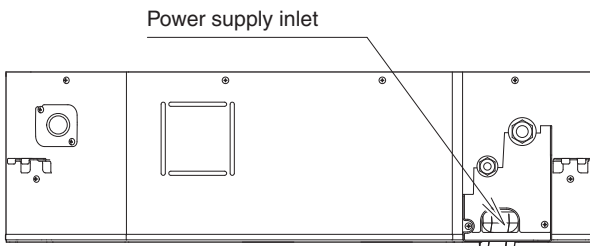

**Fig. 3-96**
- (1) Connect power to the power terminal board (R, S terminals) inside the electrical component box.
- (2) Slowly pour about 1,200 cc of water into the drain pan to check drainage. (Fig. 3-96)
- (3) Short the check pin (CHK) on the indoor control board and operate the drain pump. Check the water flow through the transparent drain pipe and see if there is any leakage.
- (4) When the check of drainage is complete, open the check pin (CHK) and remount the tube cover.
- (5) Checkpoint after installation